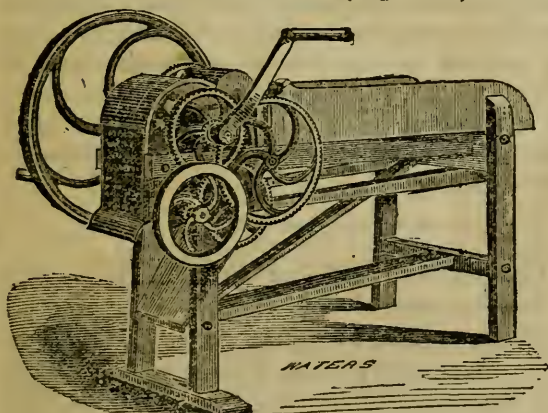

Fig. 158—HICKOK'S STALK-CUTTER.
**HICKOK'S STALK-CUTTER**—(Fig. 158.) This is a heavy and stout